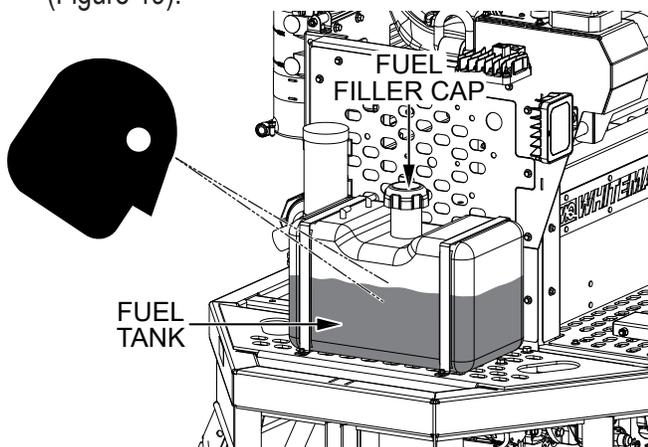

Figure 19. Fuel Level Inspection
2. Visually inspect the fuel level in the **fuel tank** (Figure 19).
3. If fuel is low, remove the **fuel filler cap** (Figure 19) and fill the tank with unleaded 87 or 89 octane gasoline. **DO NOT** overfill. The fuel tank holds 4 gallons (15 liters) of gasoline.